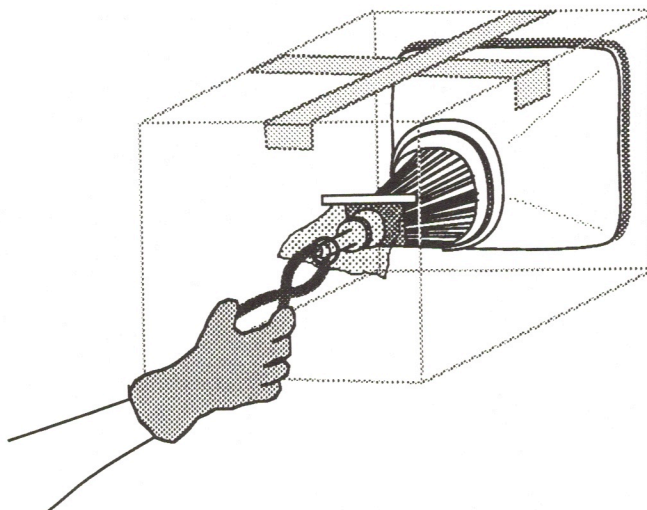

FIGURE 3
6. Tape the piece of cloth or paper onto the box (Figure 3, #1) so that it forms a veil over the opening (Figure 3, #2) but allows your hand access to the tip of the CRT. The veil's purpose is to catch bits of glass that may fly during the following step.